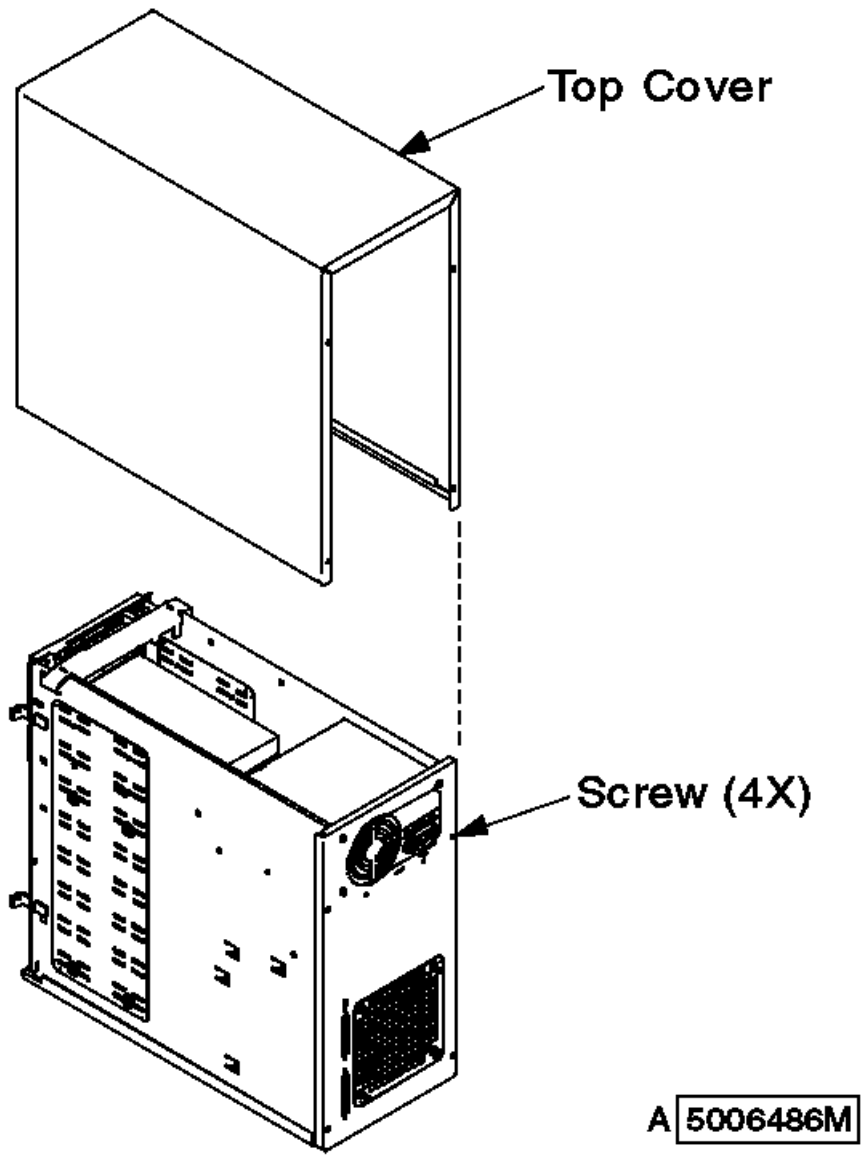

Figure 5-18. The 7131 Storage Tower Top Cover
6. Lift and remove the top cover from the 7131 Storage Tower (see Figure 5-18).
1. Put the top cover on the 7131 Storage Tower (see Figure 5-18 in topic 5.3.1).